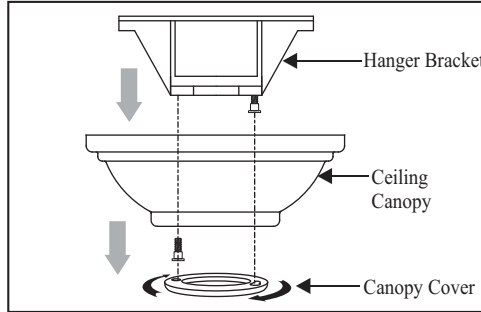

Figure 5
1. Remove the canopy cover from the canopy by turning the cover counter clockwise. (Figure 5)
2. Remove the hanger bracket from the canopy by removing the 1 of 2 screws from the bottom of the hanger bracket and loosening the other one a half turn from the screw head. Next, turn the canopy counter clockwise to removing the hanger bracket from the canopy. (Figure 5)